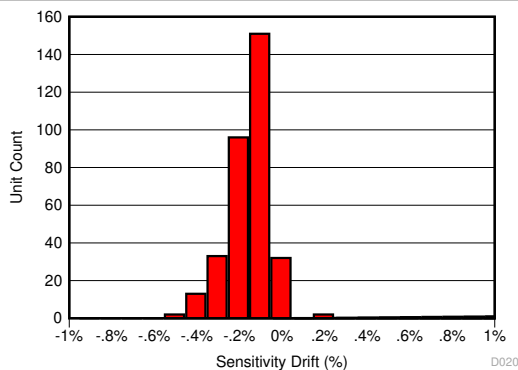
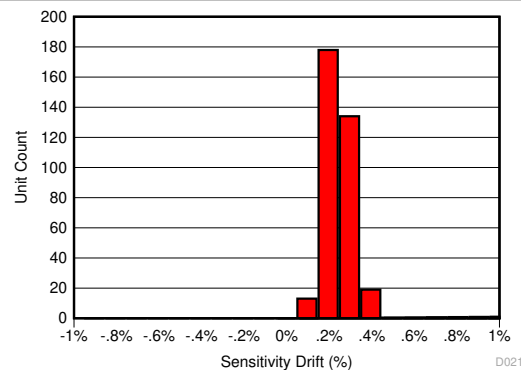
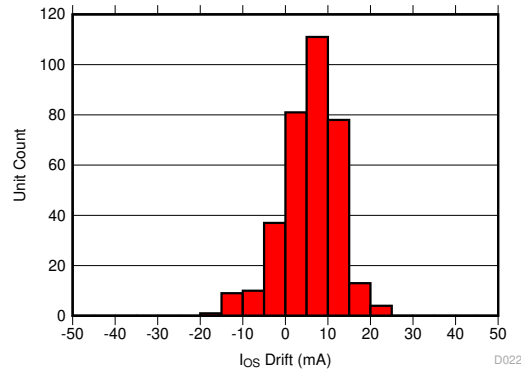

Figure 9-6. Sensitivity Error After 130°C, 85% RH HAST
Figure 9-7. Sensitivity Error Drift After AEC-Q100 High Temperature Operating Life Stress Test
Figure 9-8. Input-Referred Offset Drift After AEC-Q100 High Temperature Operating Life Stress Test
The same compensation techniques used in the TMCS1101 to reduce temperature drift also greatly reduce lifetime drift due to aging, stress, and environmental conditions. Typical magnetic sensors suffer from up to 2% to 3% of sensitivity drift due to aging at high operating temperatures. The TMCS1101 has greatly improved lifetime drift, as defined in the Electrical Characteristics for total sensitivity error measured after the worst case stress test during a three lot AEC-Q100 qualification. All other stress tests prescribed by an AEC-Q100 qualification caused lower than the specified sensitivity error, and were within the bounds specified within the Electrical Characteristics table. Figure 9-6 shows the total sensitivity error after the worst-case stress test, a Highly Accelerated Stress Test (HAST) at 130°C and 85% relative humidity (RH), while Figure 9-7 and Figure 9-8 show the sensitivity and offset error drift after a 1000 hour, 125°C high temperature operating life stress test as specified by AEC-Q100. This test mimics typical device lifetime operation, and shows the likely device performance variation due to aging is vastly improved compared to typical magnetic sensors.